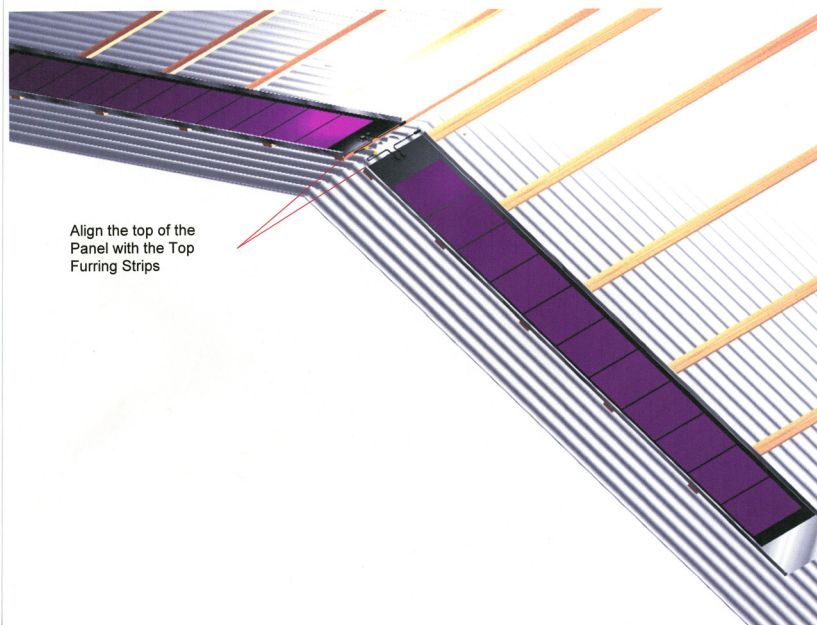

Figure 4.12; First Panel Alignment
- D. Install the first Panel. It is critical that the first panel be straight and square with the peak as it controls the alignment of all the panels. Only the first and last panels will have screws on both sides! See Figure 4.12 & 4.13 on Page 4-14.